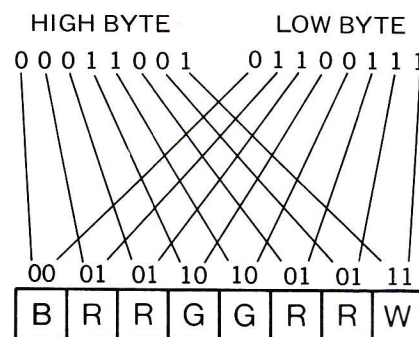

Figure 2. Colour bit designations.
The first byte is called high, the second, low. The way it works is this: each bit in the high byte (the first one) controls the green in each pixel and each bit in the low byte controls the red. If you want the pixel white, simply set both bits, and the opposite for black. So, if you want a pixel red then it's 01 (no green and just red). If you want it green, it's the other way round (10). Therefore, 11 = white and 00 = black. Fig 2 should show you exactly what's happening.